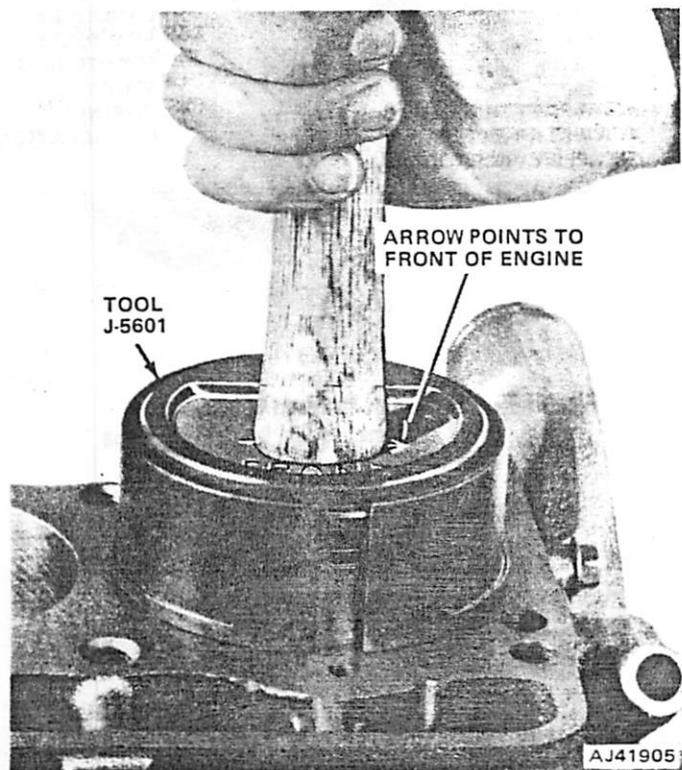

Fig. 1B-76 Piston Installation
(1) Clean cylinder walls thoroughly. Apply light film of clean engine oil to walls with clean, lint-free cloth.
(2) Install piston rings on pistons. Refer to Piston Rings for procedure.
(3) Lubricate piston and rings with clean engine oil.
(4) Use Piston Ring Compressor Tool J-5601 to install connecting rod and piston assemblies through top of cylinder bores (fig. 1B-76).
(5) Install connecting rod bearing caps and inserts in same order as removed.
(6) Install oil pan using replacement gaskets and seals. Tighten drain plug.
(7) Install gasket and cylinder head.
(8) Fill crankcase with clean oil to specified dipstick level.